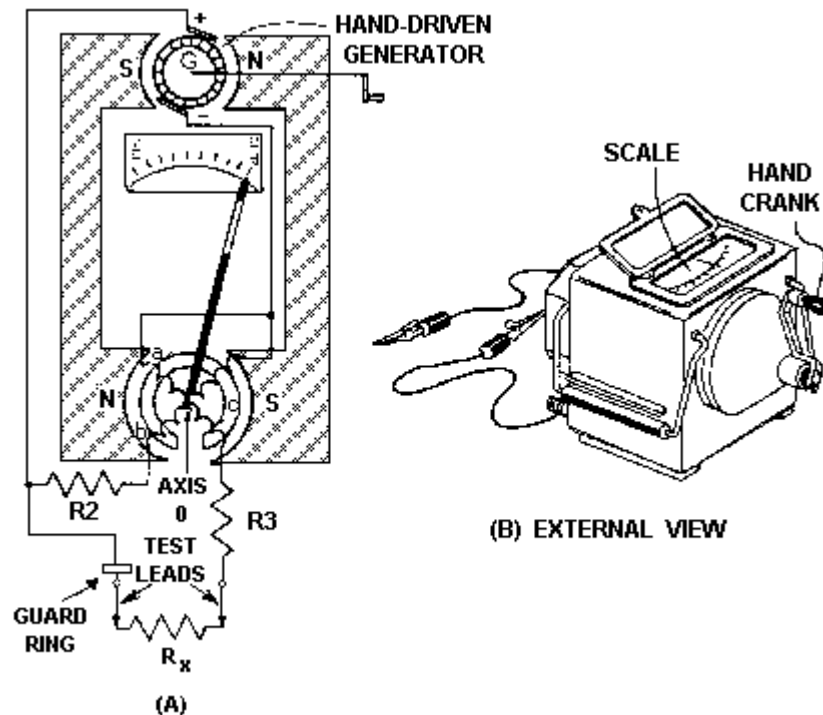

Figure 3-15.—Megger internal circuit and external view.
An ordinary ohmmeter cannot be used for measuring multimillion ohm values of resistances, such as those in conductor insulation. To test for such insulation breakdown, you need to use a much higher potential than that supplied by the battery of an ohmmeter. This potential is placed between the conductor and the outside of the insulation. A megger (megohmmeter) is used for these tests. The megger, shown in figure 3-15, is a portable instrument consisting of two main elements: (1) a hand-driven dc generator, which supplies the necessary voltage for making the measurement, and (2) the instrument portion, which indicates the value of the resistance you are measuring. The instrument portion is of the opposed-coil type, as shown in view A. Coils **a** and **b** are mounted on movable member **c**. A fixed angular relationship exists between coils, and they are free to turn as a unit in a magnetic field. Coil **b** tends to move the pointer counterclockwise, and coil **a** tends to move it clockwise.
The guard ring, shown in view A of figure 3-15, shunts any leakage currents to the negative side of the generator. This prevents such current from flowing through coil **a** and affecting the meter reading.
If the test leads are open, no current will flow in coil **a**. However, current will flow internally through coil **b** and deflect the pointer to infinity. This reading indicates a resistance too large to measure. When a resistance, such as R_x , is connected between the test leads, current also flows in coil **a**; the pointer tends to move clockwise. At the same time, coil **b** still tends to move the pointer counterclockwise. Therefore, the moving element, composed of both coils and the pointer, comes to rest at a position in which the two forces are balanced. This position depends upon the value of R_x , which controls the amount of the current in coil **a**. Because changes in voltage affect both coils in the same proportion, the position of the moving element is independent of the voltage. If you short the test leads together, the pointer will come to rest at zero because the current in coil **a** is relatively large. Since R_3 limits the current, the instrument will not be damaged under these circumstances. The external appearance of one type of megger is shown in view B of figure 3-15.